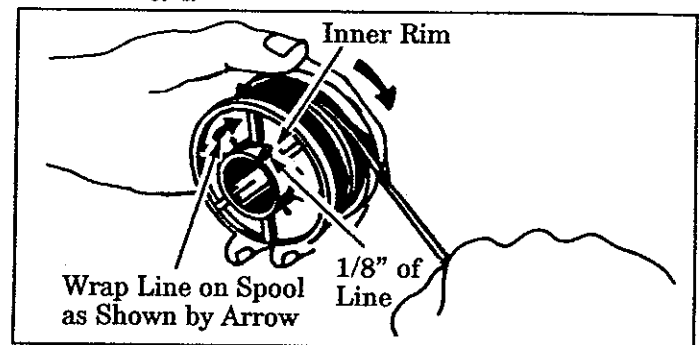

Figure 23
- Insert 1/16" to 1/8" of the end of the Line through the hole in the inner rim of the Spool. Figure 23 . Allow no more than 1/8" line to extend beyond the rim to avoid interference with tapping action.
- Wrap the Line onto the Spool firmly and evenly in a clockwise direction as shown by the arrow on the Spool. Figure 23 .